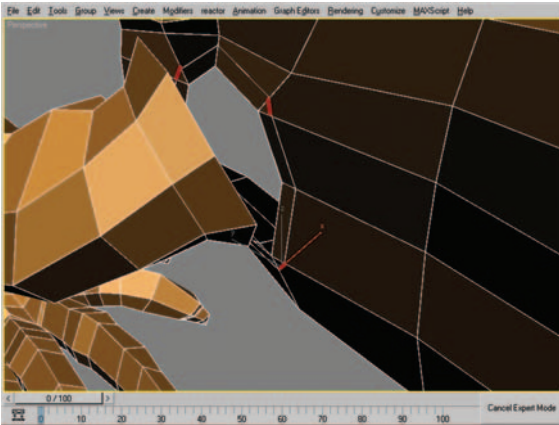

Figure 9.85 Edge selection to be collapsed. There are four edges, only three are visible in this shot.
48. As a result of the Chamfer operation there are several Tri N-gons introduced into the mesh. At the Edge subobject level, select the edges seen in Figure 9.85 and use Collapse to eliminate the Tris.